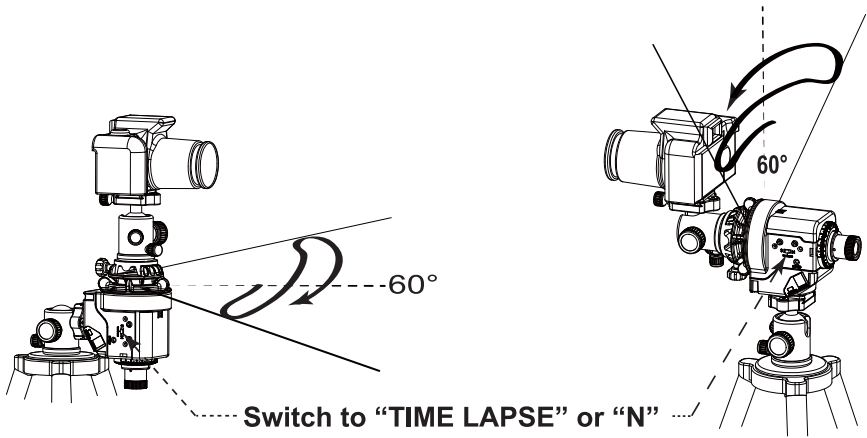
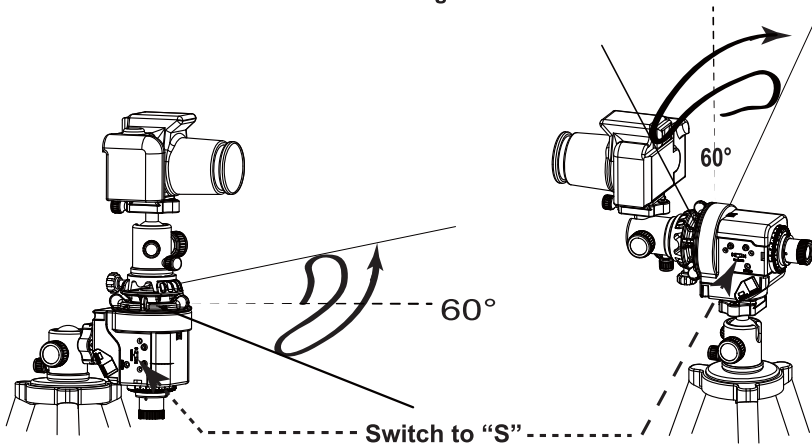

Fig 21
Fig 22
**Swinging Angle:** To avoid the shutter release cable to be twisted after a long period of use under the Astrophotography application, **Star Adventurer** will reverse after reaching 360° rotation. That is, for **Mode**    and **0.5X**, **Star Adventurer** will rotate within a 360° range. For the other modes, in order to provide more attractive scene while filming for time-lapse photography, under Time-Lapse application like Mode 2X, 6X and 12X, **Star Adventurer** will rotate within 60°(See Table 1). Every button pushed or mode changed will reset the start point of the swinging angle. For example, when the **Mode Dial** is at **6X** and **Slide Switch** is at **N** , the current position while we enter the mode will be the midpoint of the swinging angle. That is, it will rotate to the right first until it reaches 30°, then it will reverse until it reaches 60° (Fig 21), then swing within the 60°. If you push the buttons, the position at which you release the buttons will become the new midpoint of the 60° swing. If the switch is at **S**, it will rotate to the left first until it reaches 30°, then reverse the direction until it reach 60°(Fig 22).